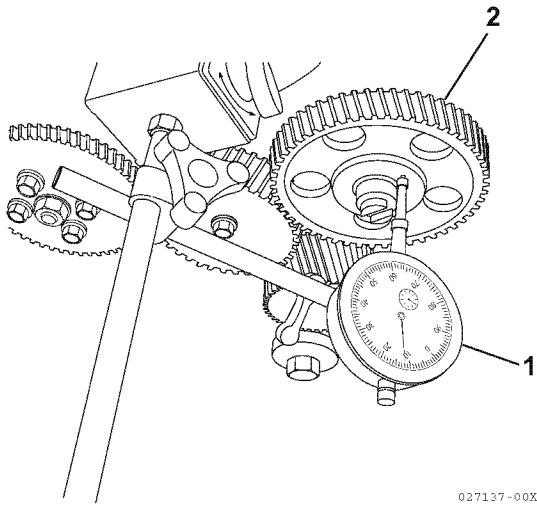

Figure 6-44
- **Method A:** Install a dial indicator (Figure 6-44, (1)) on the cylinder block. Move the camshaft and gear (Figure 6-44, (2)) in and out to measure the end play. Record the measurement. See *Camshaft* on page 6-5 for the service limit.